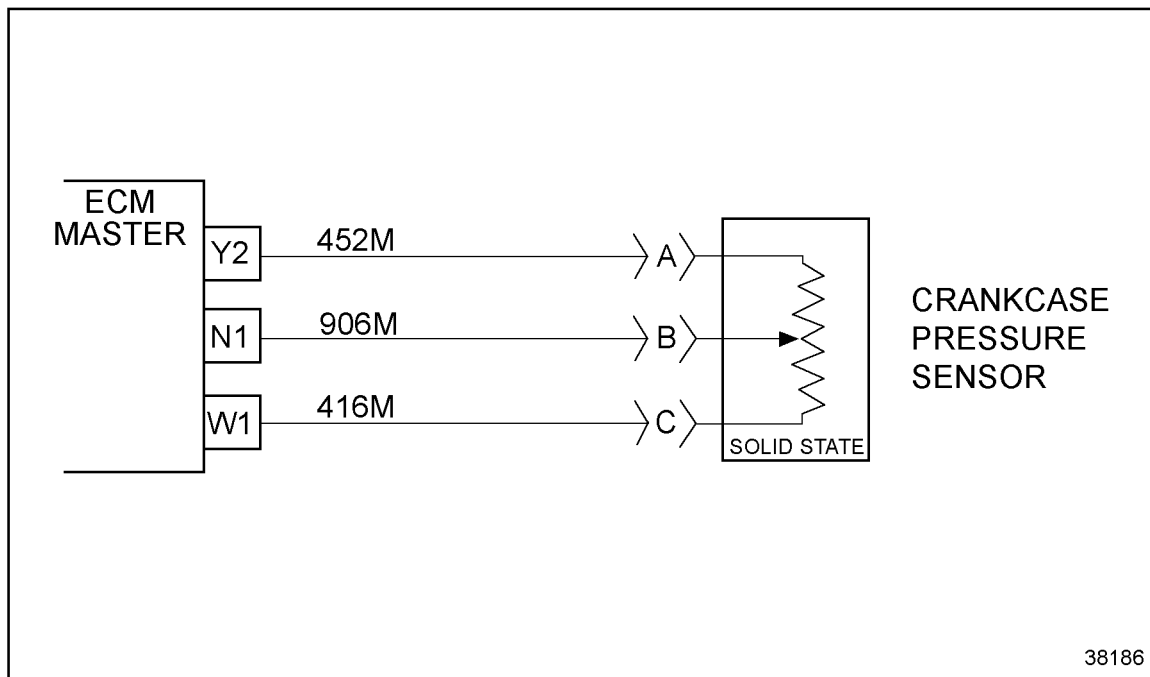

Figure 82-2 Crankcase Pressure Sensor
2. Measure resistance with the jumper still plugged in, between cavity N1, #906M, and W1, #416M. See Figure 82-2.